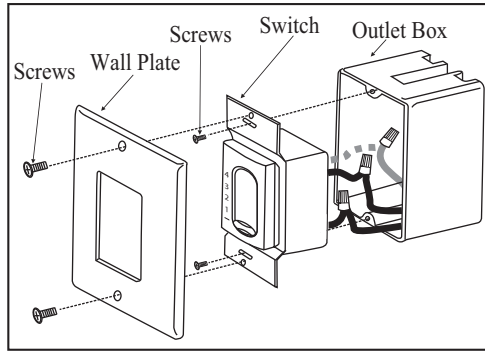

Figure 13
1. (Fig. 13) Carefully tuck the wire connections inside the junction box. Secure the wall transmitter with the two screws provided.